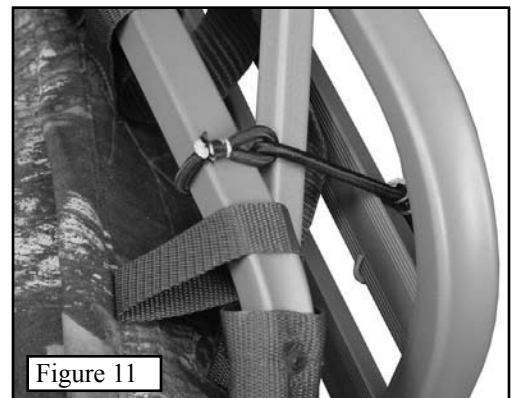
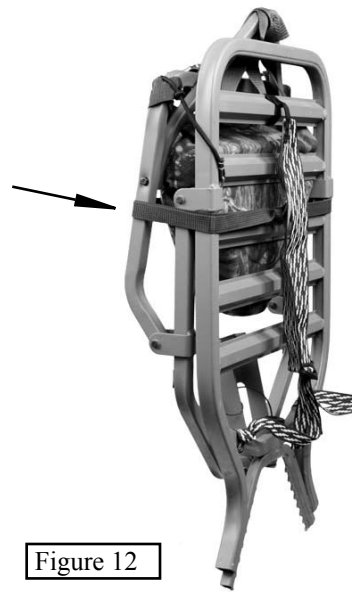

Figure 11
Figure 12
**Step 3.** When packing your stand, reverse **Steps 1 and 2**. Secure the tethered knob back on the stud. Use the small bungee attached to the seat frame to secure it to the platform (See **Figure 11**). Wrap the supplied green tourniquet buckle strap around the stand and tighten as shown in **Figure 12**.